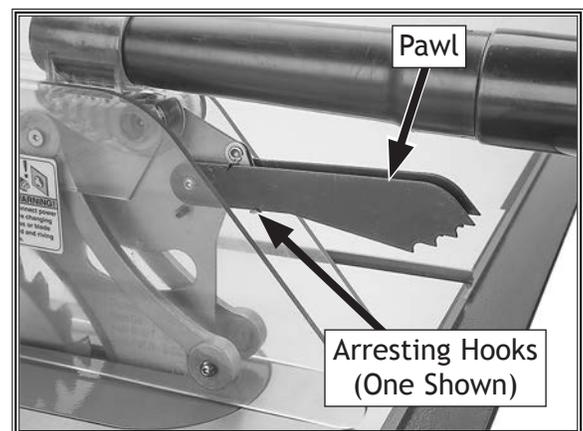

Figure 56. Pawls disabled.
2. Rotate one or both arresting hooks downward, then place pawls on each of the hooks (see **Figure 56**).